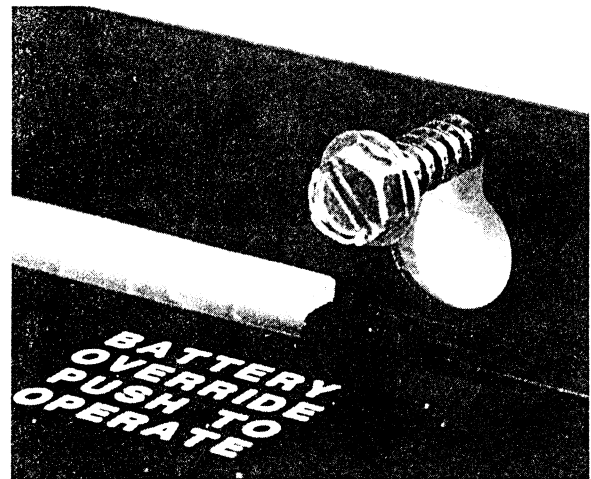

FIGURE 7
01.24 Place the MPSA against the mounting surface with the screws protruding through the holes (Figure 7).